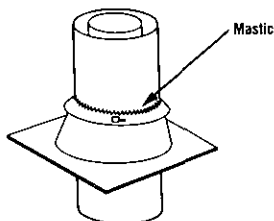

Figure 30
Step 8: The standard Superior roof flashing assemblies include a storm collar. Slide storm collar over outer flue, align with top surface of flashing, insert storm tab in slot, pull tight and bend tab back over slot. Seal storm collar to outer flue pipe with roof caulking or mastic around entire circumference of pipe. (Also add extra roof caulking where storm collar meets flashing and to the tab/ slot area to seal completely against water penetration (Figure 30). Check all joints very carefully to ensure no water intrusion can take place.